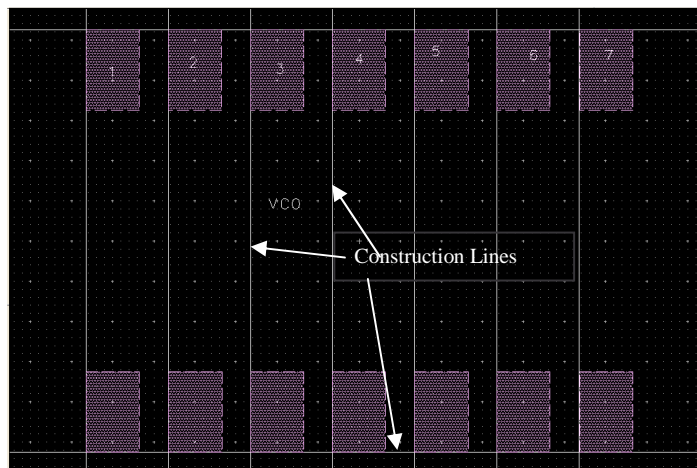

Figure 4: Finished VCO footprint with construction lines
- 3) One advantage of ADS is its ability to copy, paste, rotate, and so forth. This makes the creation of footprints much easier. For the footprint shown in figure 1, the next step would be to copy the rectangle 14 times (once for each of the pads). When copying a part, ADS will prompt for the paste coordinates. Rather than inputting coordinates it is easier to select the **Default** option. The G dimension shown in figure 1 gives the pitch which is important for pad spacing. The finished footprint for the VCO is shown in figure 4. As can be seen in the figure, construction lines can be used to define spacing and other dimensions. A construction line can be placed by selecting **Insert à Construction Line**.